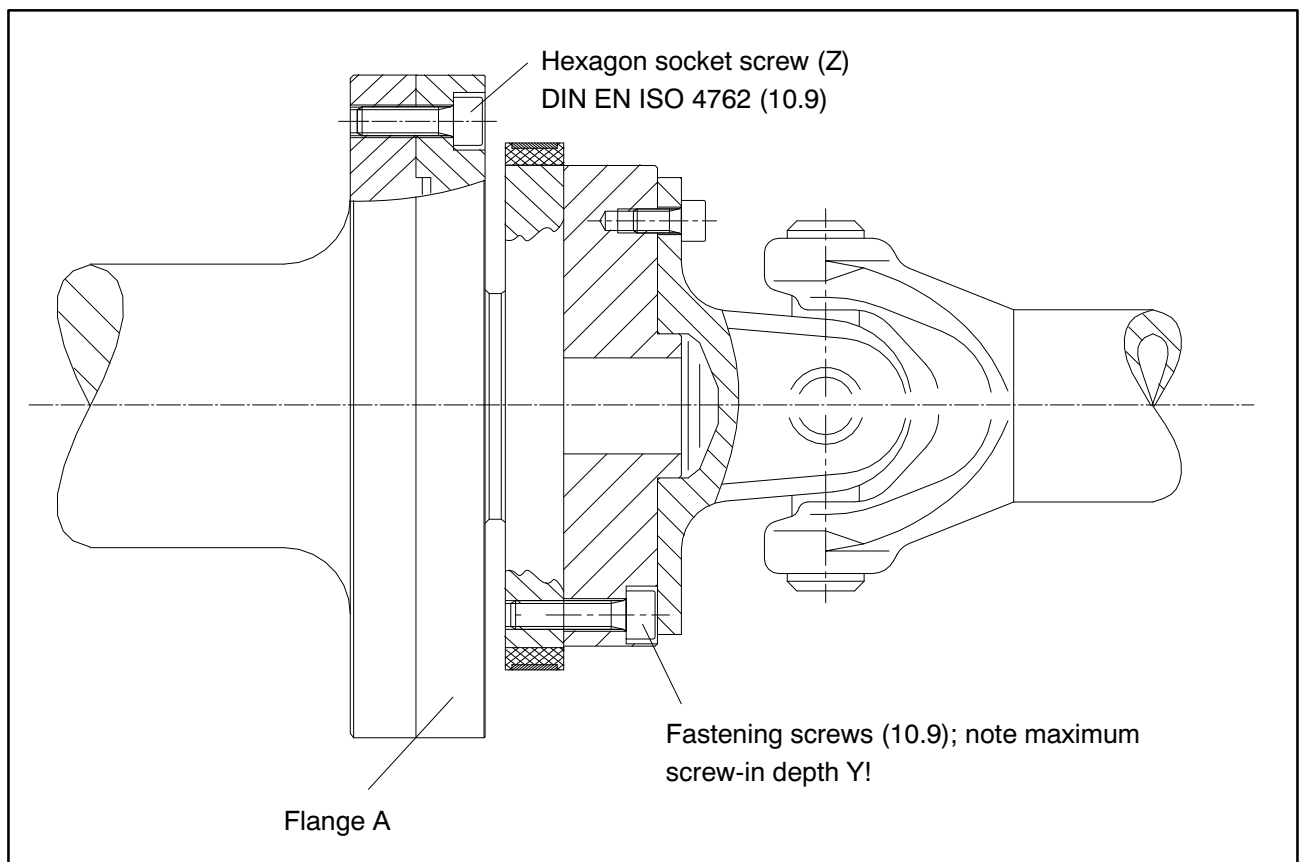

Fig. 4.4: Screwed rotor connection
2. For the connection of flange A (see Fig. 4.4), use **DIN EN ISO 4762 property class 10.9** hexagon socket screws of a suitable length (dependent on the connection geometry, see Table 4.1 on Page 20). We recommend fillisterhead screws DIN EN ISO 4762, blackened, smooth-headed, permitted size and shape variance in accordance with DIN ISO 4759, Part 1, product class A.